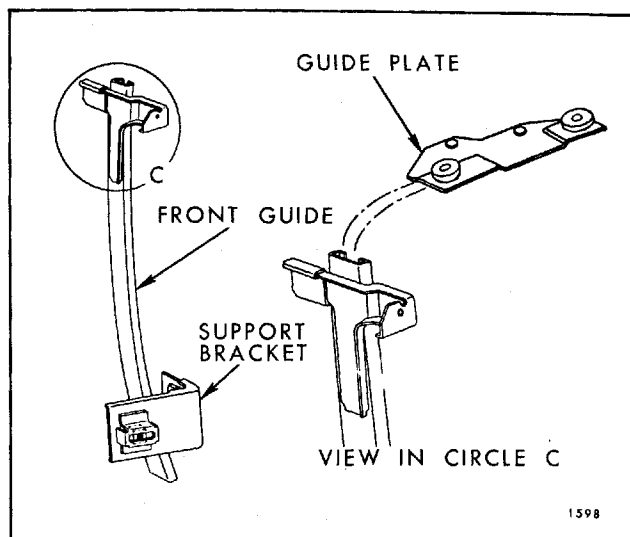

Fig. 7-158—Front Guide and Guide Plate - 68069-68169 Styles
7. Remove front guide and guide plate as an assembly through access hole (Fig. 7-158).